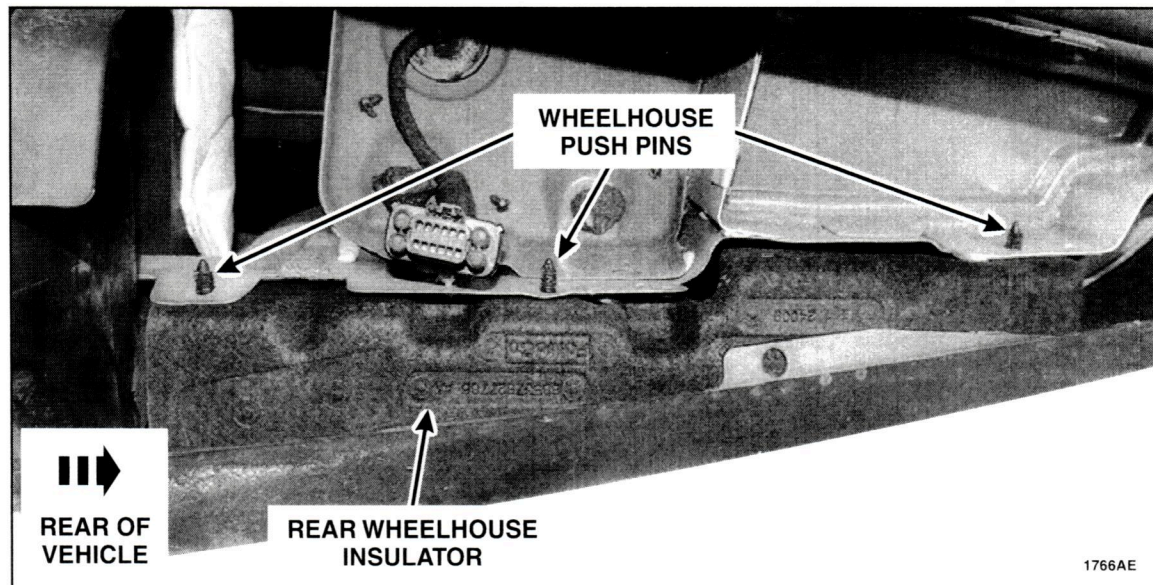

FIGURE 2
1. Remove the three push-pins securing the LH and RH rear wheelhouse insulators, and remove the insulators. See Figure 2.